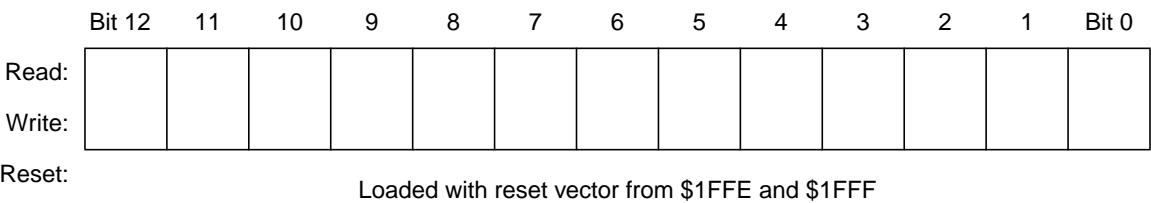

Figure 3-5. Program Counter (PC)
The program counter (PC) shown in **Figure 3-5** is a 13-bit register that contains the address of the next instruction or operand to be fetched.